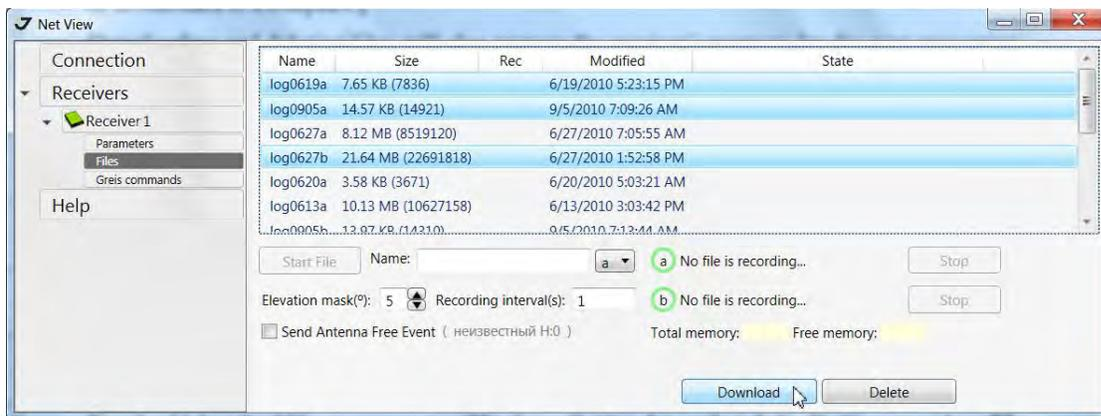

Figure 1-17. Download Files
2. Click *File* on the left panel. On the right panel appears the list of files, saved in receiver’s memory. Select the file(s) to download (Figure 1-17).